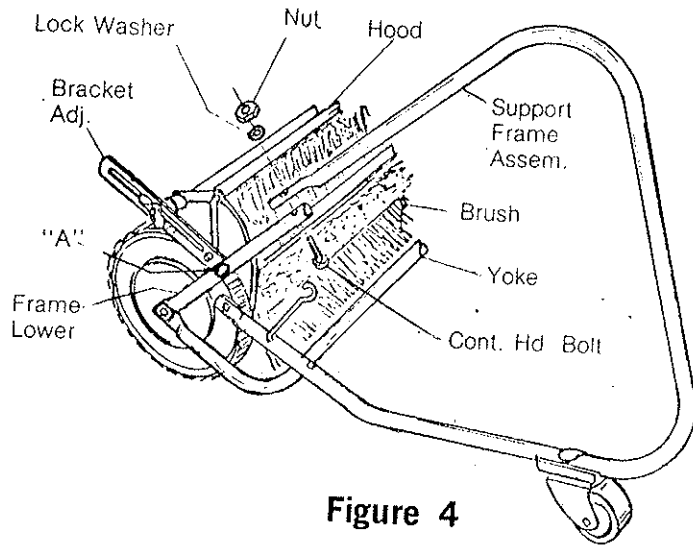

Figure 4
- Fig. 4 & 5 - Fasten the Support Frame Assemblies to the Frame-Lower, with (1) $\frac{1}{4}$ -20 x $1\frac{1}{4}$ Cont. Hd. Bolt, Int. Tooth Lock Washer and Plain Nut, loosely, both sides, Ref. "A" location. Now remove the Cont. Hd. Bolt from the Frame-Lower, Adj. Bracket, Spacer, Flat Washer, Int. Tooth Lock Washer and Plain Nut, both sides. Place the Support Frame Assembly on the inside of the Frame-Lower, and replace the Cont. Hd. Bolt thru the Frame-Lower, Support Frame Assembly, Spacer, Adj. Bracket, Flat Washer, Int. Tooth Lock Washer and Plain Nut, both sides.